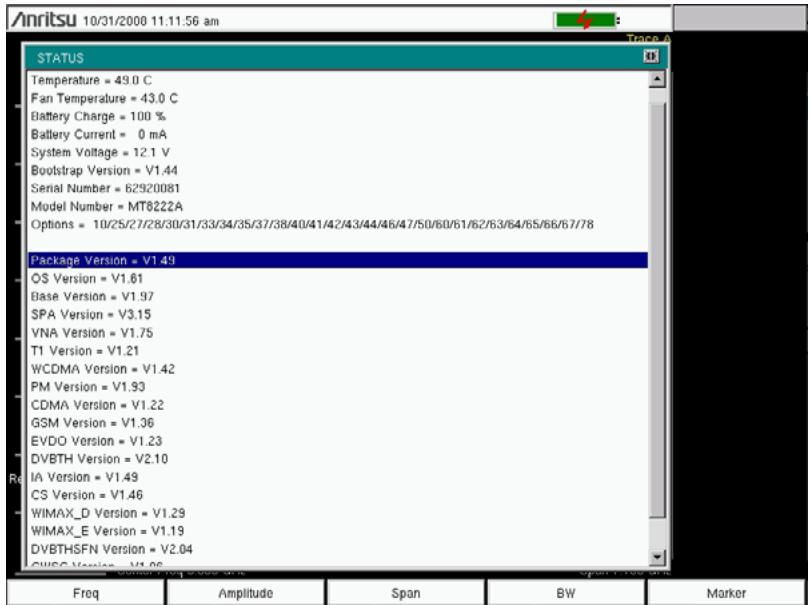

Figure 1-2. BTS Master Status Window
2. After the instrument is completely booted up, press the **Shift** key and then the **System** (8) key.
5. In the status window, look for the “Package Version” and make sure that it is equal to (or greater than) V1.48. Refer to Figure 1-2. If the package version is not equal to (or greater than) V1.48, then follow the instructions in section “Updating MT8222A Firmware Version” on page 1-9 to load the BTS Master with the current Firmware Package after going through section “Setting Up the PC Network Connection”. If the package version is equal to (or greater than) V1.48, then you can skip the “Updating MT8222A Firmware Version” section.